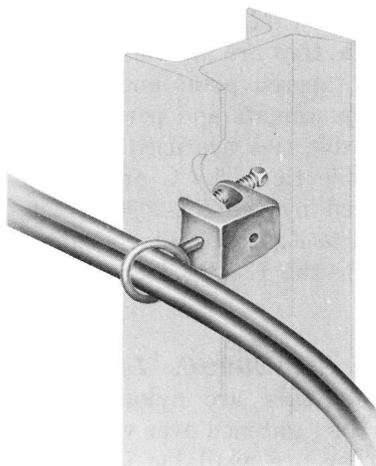

Fig. 7—B Insulator Support
A. B Insulator Support (Fig. 7)